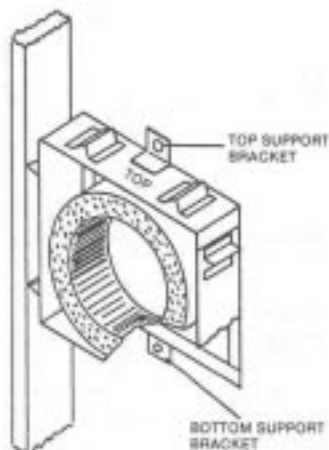

FIG. 2
2. Using the back plate and insulated thimble assembly as a template position and mark off the hole locations where the two support brackets on the back plate are located. See Fig. 2.